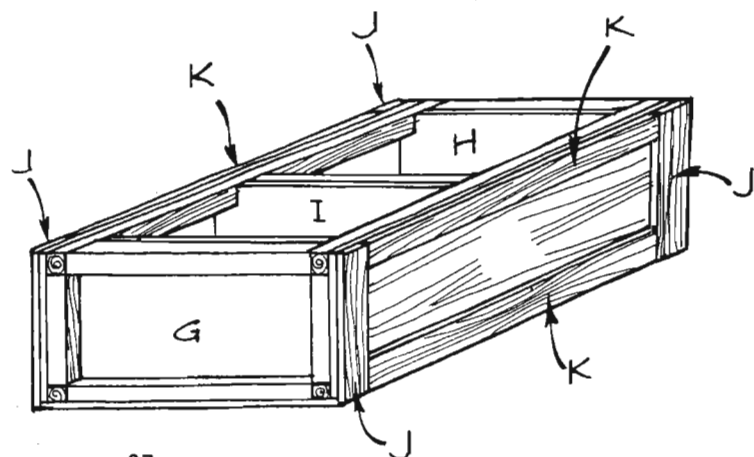

Figure 7
1. Cut two horizontal side trim pieces (J) from 1 x 4 pine, each 24-3/4 inches long. Attach them to the two shorter ends of the sides (A), overlapping the exposed edges of the back (C), as shown in *Figure 7*. Use both glue and 1-1/4-inch-long screws, countersinking the screws.
2. Cut two vertical side trim pieces (K) from 1 x 4 pine, each 65 inches long. Glue and screw them along each of the 6-foot edges of the sides (A), between the horizontal side trim pieces (J), as shown in *Figure 7*. They also cover the exposed edges of the back (C).
3. Repeat steps 1 and 2 to add vertical and horizontal side trim pieces (J and K) to the remaining side (A) of the armoire.